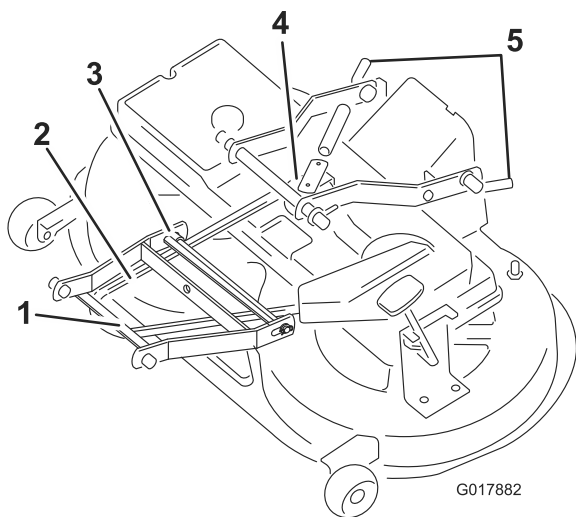

Figure 44
9. Pull the idler arm assembly inward and remove the V-belt from the pulley (Figure 44).
11. Remove the pin between the front arm linkage and the mower housing (Figure 44).
12. Remove the V-belt from the engine pulley (Figure 44).